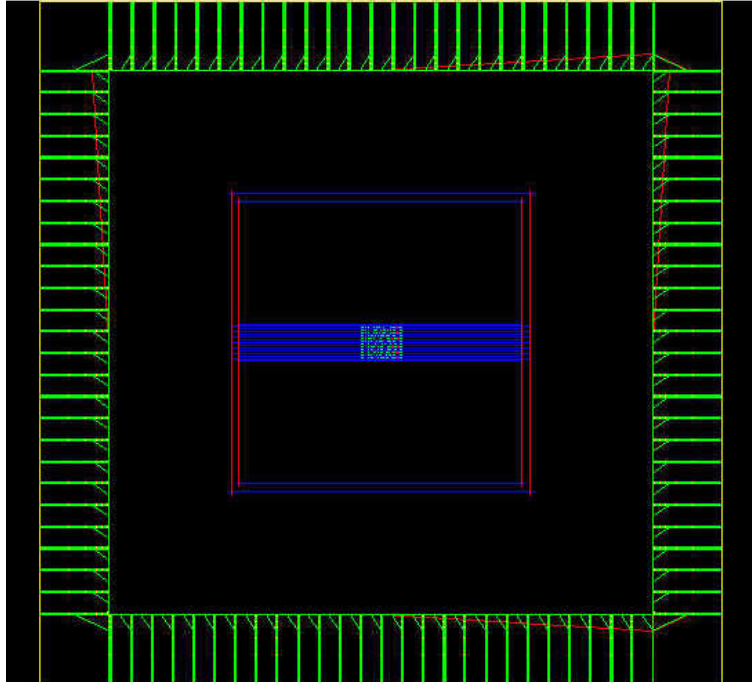

Figure 7-36 Design after connecting rings.
- The design after connecting rings is as figure 7-36. Notice that the power pads are not connected due to the foundry issue. They must be manually connected. Skip to step 6 if the power pads were connected.